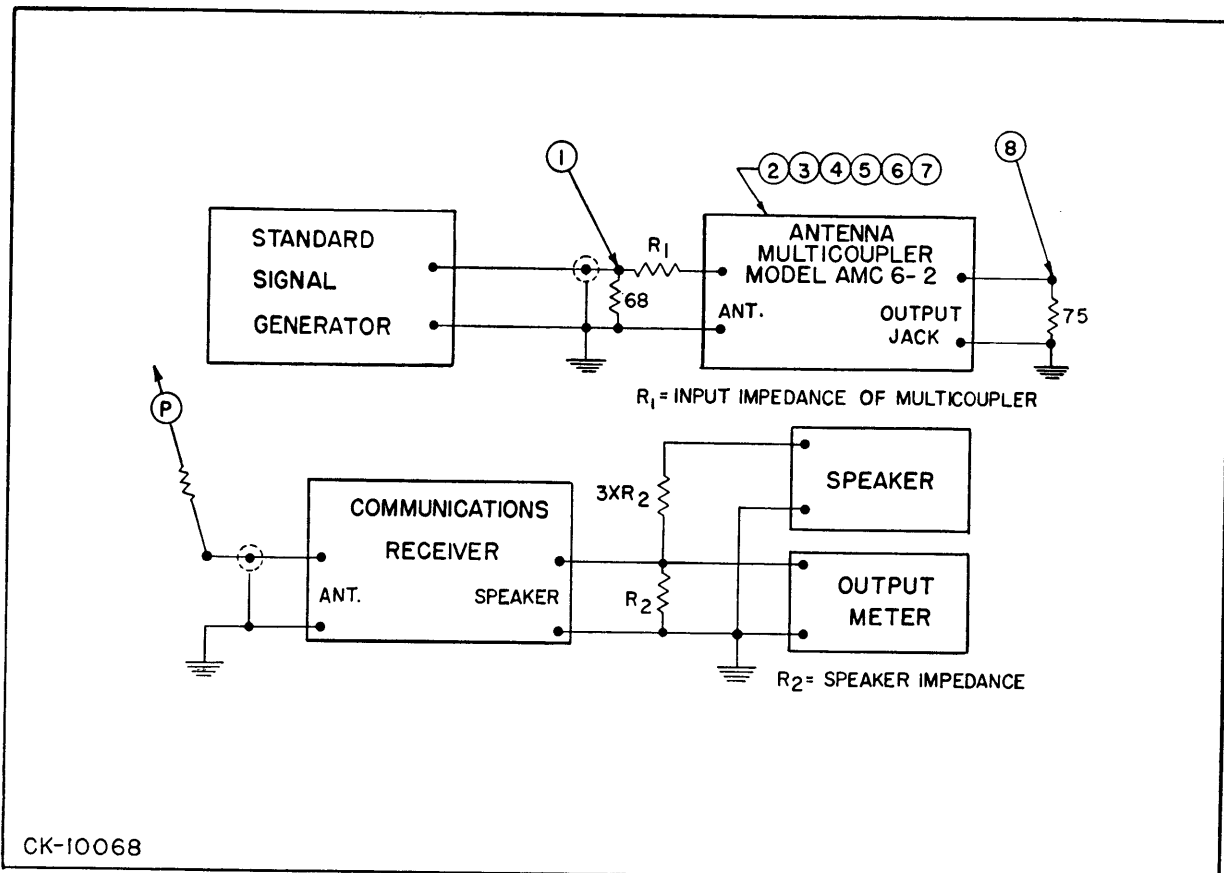

Figure 5-1. TEST SET UP FOR GAIN MEASUREMENTS
c. The spurious signal amplitude to be expected from two signals applied at the input of the multicoupler is shown in Figure 6-2. Every precaution has been taken in the design of the instrument to minimize intermodulation effects in the receiving system. At the low end of the band (where high level signals from local broadcast stations are likely) filter FX101 becomes effective. Sufficient attenuation is provided by the filter so that signals are reduced to a level where they are ineffective in the production of spurious signals. The filter may be switched out or in as desired. In some instances the location of the receiving station is such that excessive signals from a powerful local station may cause serious intermodulation effects in the receiving system. This, however, should not be troublesome for signals under 10,000 microvolts. Should it be found that signals of a higher order than 10,000 microvolts are causing serious intermodulation effects, additional filters may be inserted in the antenna transmission line. A suggested method of locating the frequency or determining the amplitude of interfering signals can be obtained by referring to the test set-up in Figure 5-1. First, disconnect the multicoupler from the circuit and connect the antenna lead together with test probe (P) to test point (2); set the signal generator to the unmodulated condition and turn the attenuator to zero. Tune the receiver until a strong signal is located and turn on the BFO switch; adjust the gain controls for a convenient reading on the output meter using the highest signal obtained on either side of zero beat as a reference voltage. Move the tuning dial until the signal disappears; adjust the frequency and attenuator controls of the signal generator until a voltage comparable with the reference voltage is obtained on the output meter. The signal generator setting in microvolts indicates the strength of the signal pick-up by the antenna while the first tuning dial position of the receiver indicates its frequency.
c. Faults which are difficult to locate by other means may be isolated by the test set up shown in Figure 5-1. The signal generator should be set for a modulated condition of 1000 cycles per second and a modulation depth of 30 per cent. Next set up the receiver gain controls for use as a fixed level detector. To do this connect test probe (P) to test point (3); set the signal generator attenuator to 100 μ V; turn the receiver audio gain control up, and with the BFO off adjust the manual RF gain control to a minimum value for a convenient voltage reading on the output meter. Connect test probe (P) to other test points and adjust ONLY the signal generator attenuator to obtain the same output meter reading as before. Record the attenuator settings in a table similar to Table 5-2. Ratios between the microvolt settings in this table can be used to locate quickly any circuit fault in the multicoupler.